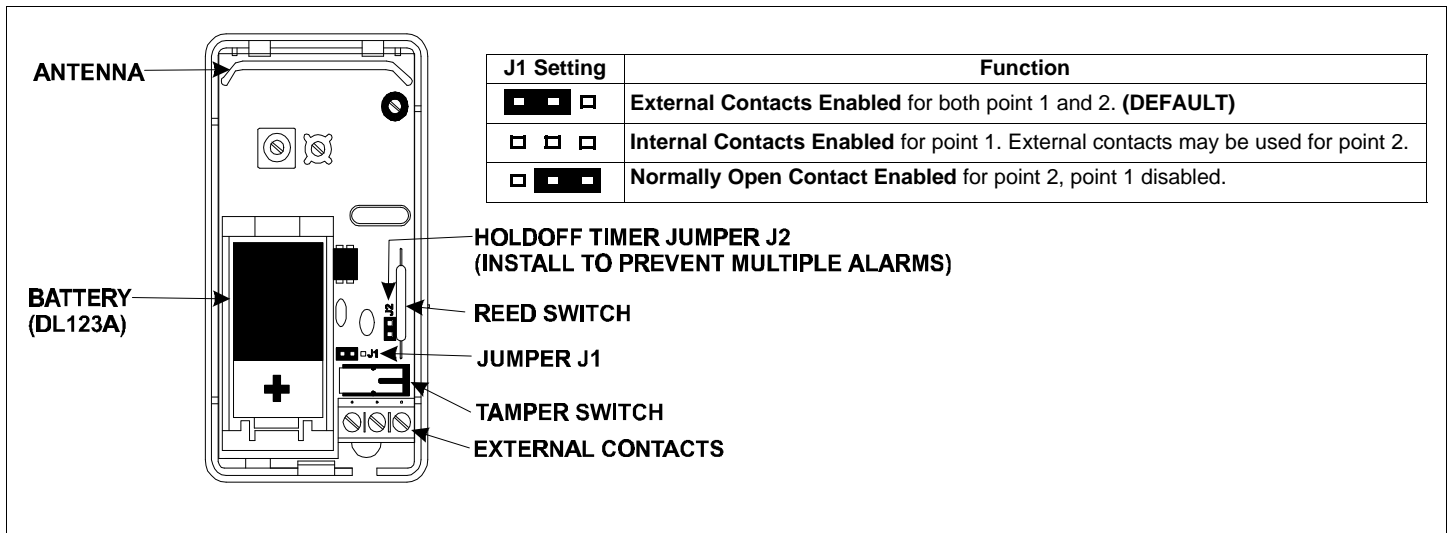

Fig. 4 Location of parts
3. Identify transmitter parts. Refer to Fig. 4.
9. Complete transmitter setup. Install Jumper J2 (see Fig. 4) to enable the holdoff timer (after triggering, unit waits 3 minutes before retriggering). For example, if used on doors in heavy traffic areas, this will prevent multiple alarms and thereby conserve battery life.
If internal reed switch is used, remove Jumper J1 (see Fig. 4) and short Point-1 (Terminals 1-2). An external contact may be connected to point 2.